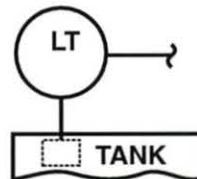

Figure 37. Level Sensing Element Symbol
1. Determine what type of level sensing element symbol is shown in figure 37.